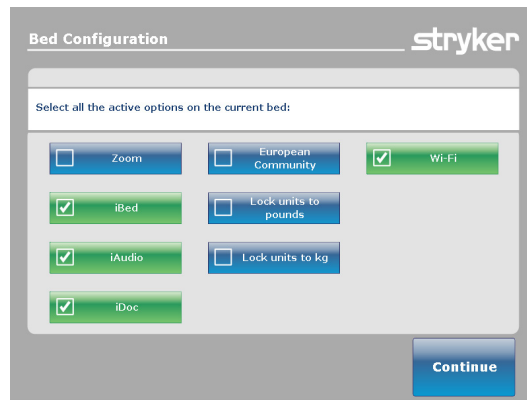

Figure 34: Bed Options screen
1. Press and hold the **HOB 30** button and the **BRAKE** button at the same time for 5 seconds, then release both buttons. The Bed Options screen (Figure 34) will be displayed.
**NOTE: In Figure 34, the options selected are iBed, iAudio, iDoc and Wi-Fi. All of the options selected will turn green.**